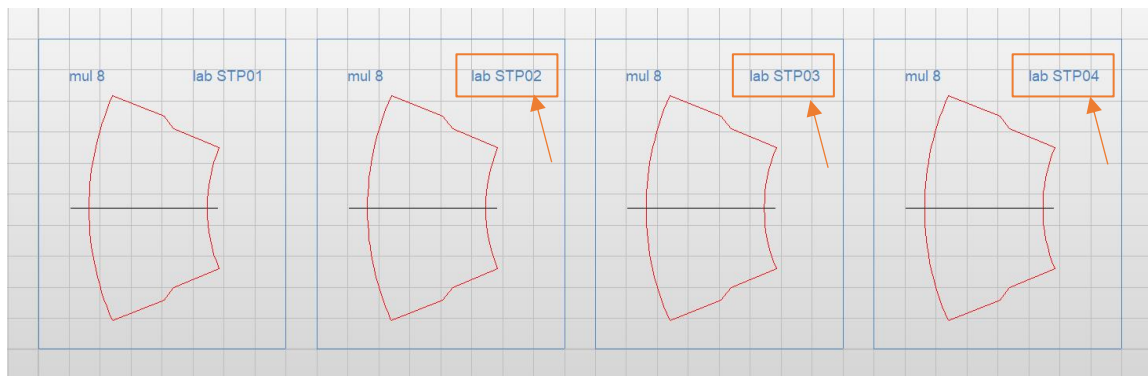

Figure 73
- d. Repeat these steps with STP03 and STP04 (Figure 73).